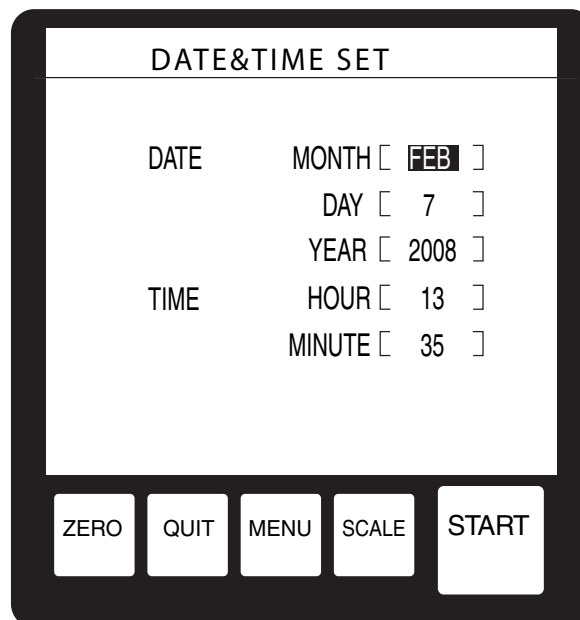

Fig.8-2
- c) The screen shown in Fig.8-2 will be displayed. You will see the setting next to MONTH highlighted. Enter number of month. In the case of April, enter "4", Then press the ← key.